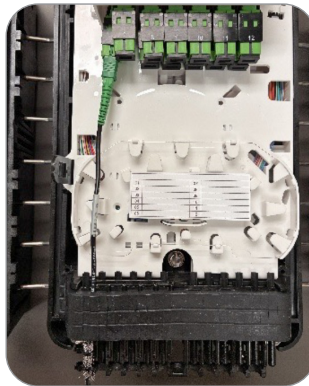

Figure 36
6. Remove the dust caps from the connector and the drop and install the drop cable. (Figure 36)